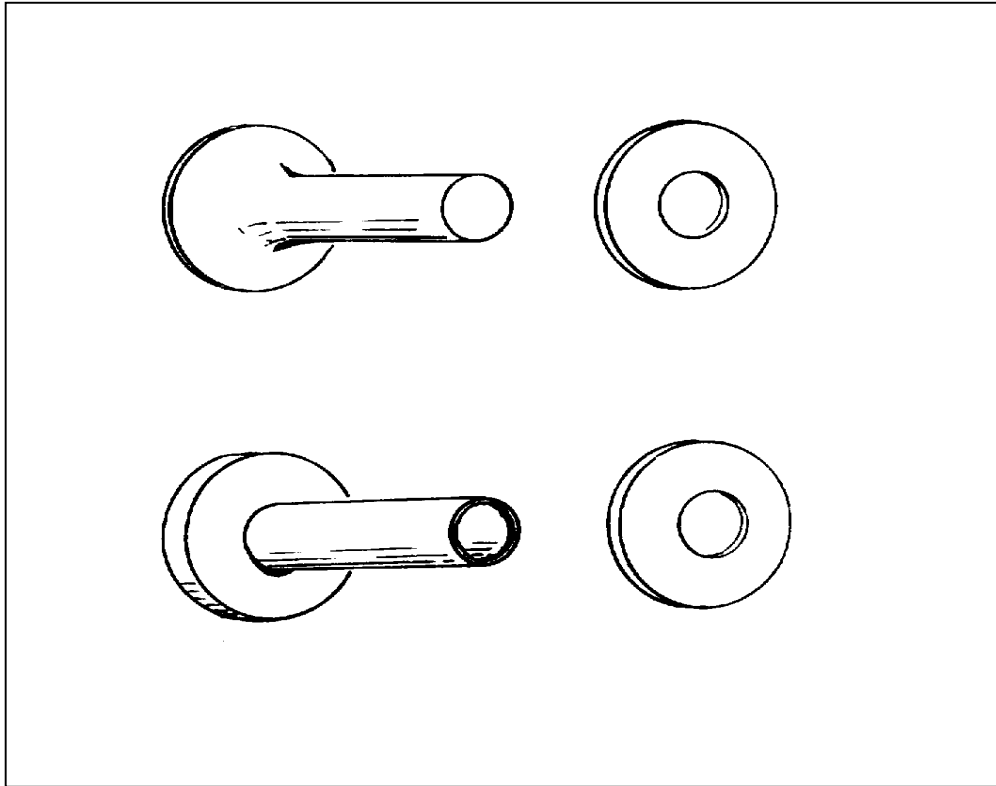

Figure 12-11. Rivets
a. **Belt Rivets.** Belt rivets (Figure 12-11) are made of solid brass or copper. They come in sizes 8, 10, 12, and 14, with lengths from $\frac{3}{8}$ to $1 \frac{1}{4}$ inches. The head of this type of rivet is called a burr. The burr size used should match that of the rivet.
b. **Tubular Rivets.** Tubular rivets (Figure 12-11) are made with hollow brass shanks. They come in $\frac{3}{16}$ - to $\frac{3}{4}$ -inch lengths. The head of this rivet is called a cap. The end of a tubular rivet is beveled so that it will form a flange inside the rim of the cap.
(1) Use a hole punch to cut a hole in the layer or layers of canvas or webbing. Make the hole small enough to fit tightly around the rivet.
(2) Insert the rivet into the hole. Use a size of rivet that will pass through all the canvas or webbing with very little excess and still take a cap or burr.
- (3) Place the canvas or webbing and the rivet, head down, on a metal block.
- (4) Place the burr or cap on the rivet.
- (5) Clinch the burr and belt rivet together by hitting the burr with a ball peen hammer. Clinch the cap and tubular rivet together by hitting the cap with a plain-faced hammer.